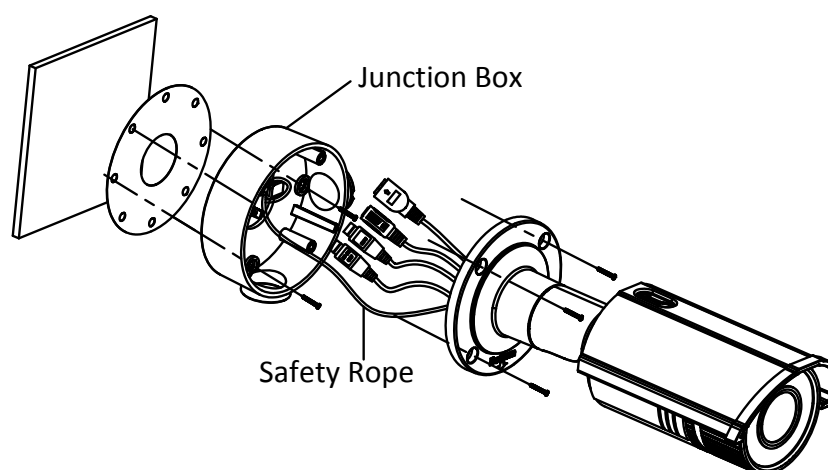

Figure 6-30 Secure the Camera
8. Hook the camera to the junction box with the safety rope. Refer to the Figure 6-30.